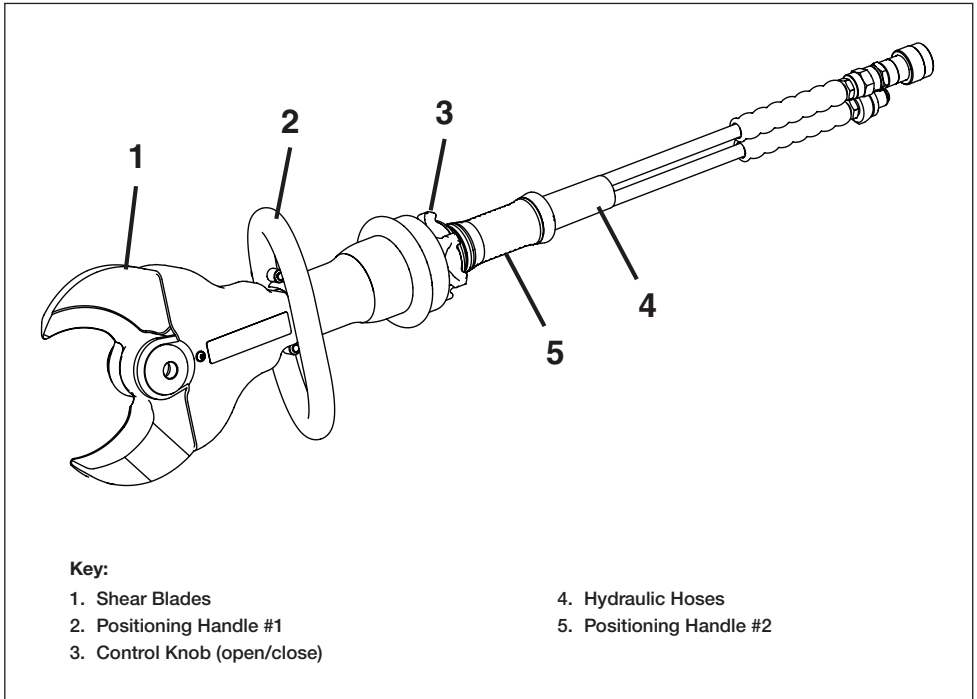

Figure 1, Features and Components
See Figure 1 for a description of cutter major features and typical items included in the shipment. Refer to Section 2.0 for cutter maximum capacities, specifications and dimensions.
• Position the cutter as needed using the positioning handles located at the side and rear of the cutter hydraulic cylinder. See Figure 1.